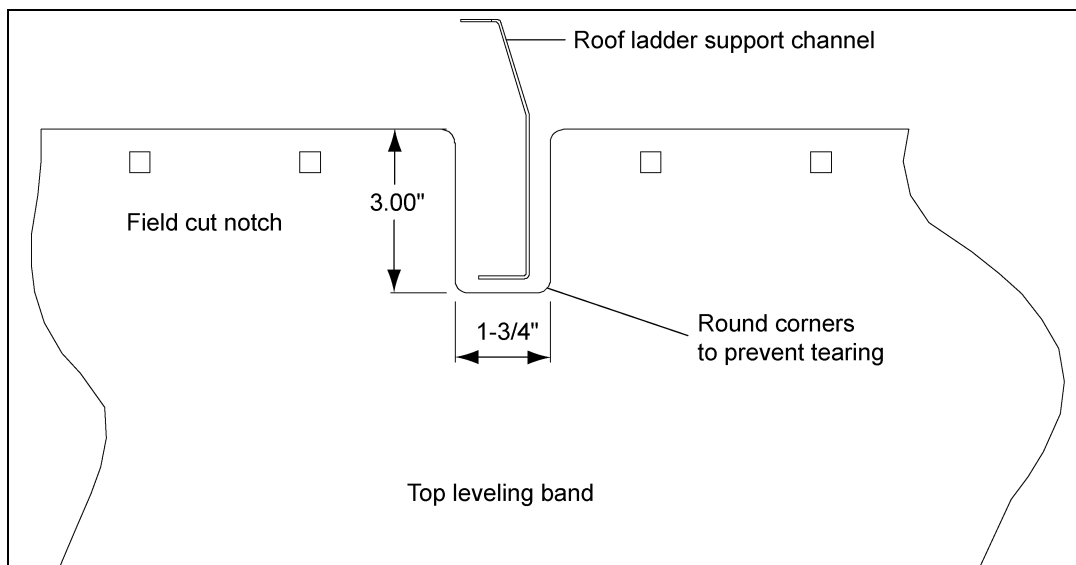

Figure 8R
**NOTE:** Field cut rounded notches in the outer leveling band(s) where the two (2) roof support channels hang from the roof ribs. (See Figure 8R.)